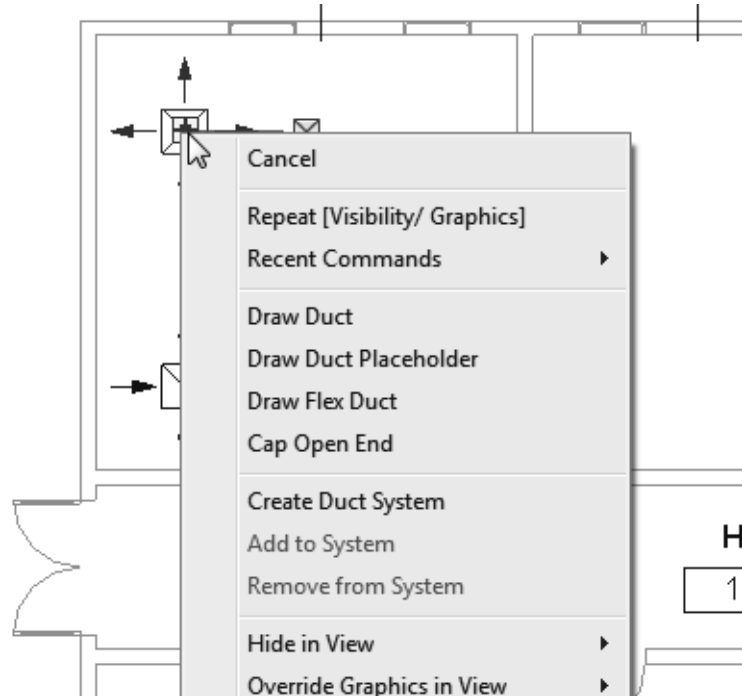

Figure 2–41
3. Right-click on the control and look at the variety of options you can use, as shown in Figure 2–41.